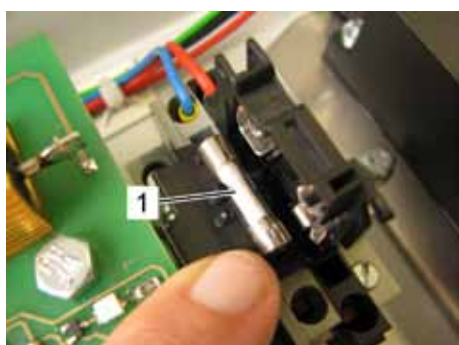

Fig. 103: Fuse
6. Remove the fuse (Fig. 103/1) of the power switch handle and replace it by a new one.